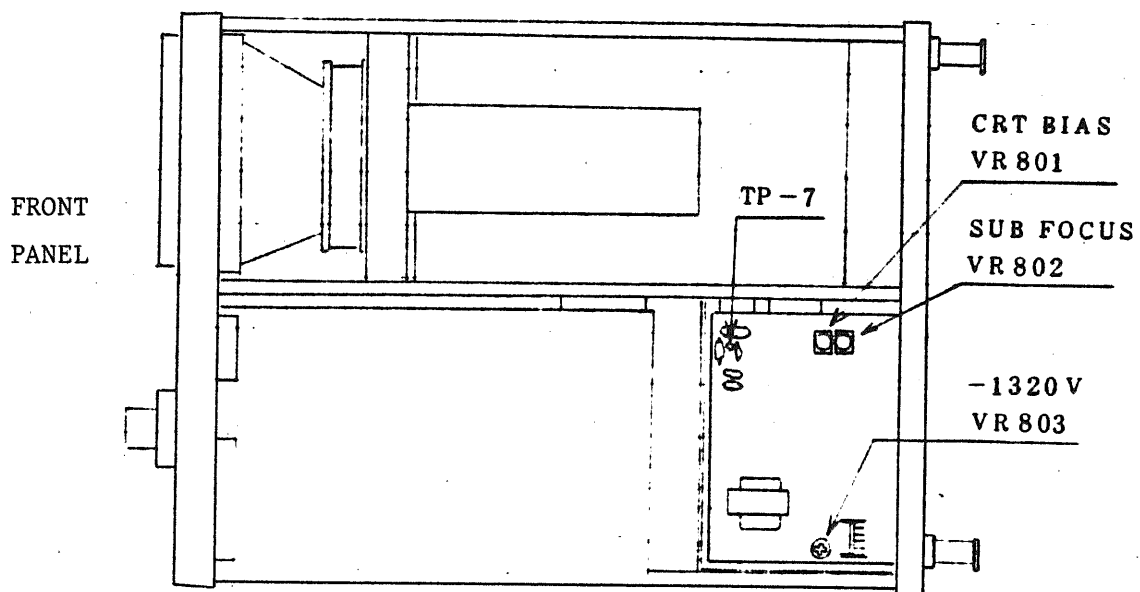

Figure 27 (Top view)
- (1) Set the larger knob of TIME/DIV switch (36) at 1 mS and display the single-line horizontal trace on the screen with A sweep.
- (2) Set the white mark of the INTEN knob in the upright position (noon position) and so adjust the CRT BIAS control (Figure 27, VR801) that the trace is displayed on the screen with a barely discernible intensity.
- (1) Display a square wave of 1 kHz - 10 kHz, 4 DIV, in a mid-position of the CRT screen.
- (2) Turn the INTEN knob of the front panel to a position slightly counterclockwise from the extremely clockwise position, so that a bright trace is displayed.
- (3) So adjust the SUB-FOCUS control (Figure 27, VR802) that the image becomes sharpest.
- (4) Check that the position of the FOCUS control is not required to be changed even when the trace intensity is lowered.